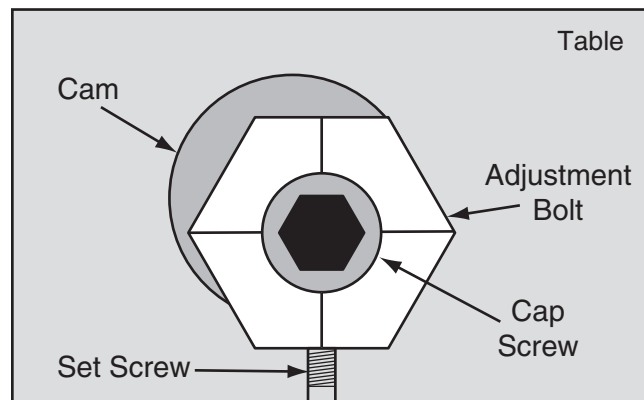

Figure 55. Illustration of the table adjustment bolt components.
4. Loosen the cap screw in the center of the outfeed table adjustment bolt three full turns, then loosen the set screw that is directly underneath the adjustment bolt (see **Figure 55**).
5. The adjustment bolt shaft is cam-shaped, as shown in **Figure 55**, and connects the table to the lifting arm. Rotate the adjustment bolt in very small increments to raise or lower the front corner of the outfeed table until the surface is the correct height above the cutterhead, as instructed in **Step 4**.
- When the outfeed table height is correct and parallel to the cutterhead, re-tighten the adjustment bolt cap screw and set screw (see **Figure 55**), then tighten the table lock.